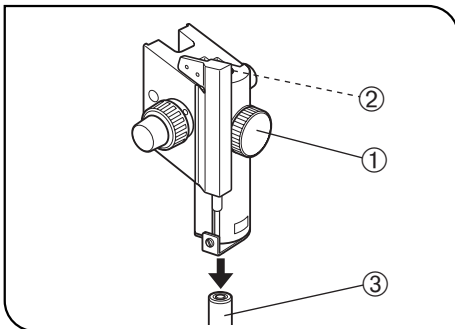

Fig. 30
### 1 Mounting the Focusing Assembly (Fig. 30)
1. First loosen the focusing assembly clamping knob ① completely and, while holding the focusing assembly with both hands, insert the pillar ③ into the mounting hole ② from below. (Fig. 30)
2. Lower the focusing assembly until it stops, then tighten the focusing assembly clamping knob ①. (Fig. 30)
★ If the clamping knob ① is tightened while the pillar ③ is not completely inserted into the mounting hole ②, the plate spring supporting the pillar from the inside will deform and the pillar will not be able to penetrate into the hole. (Fig. 30)